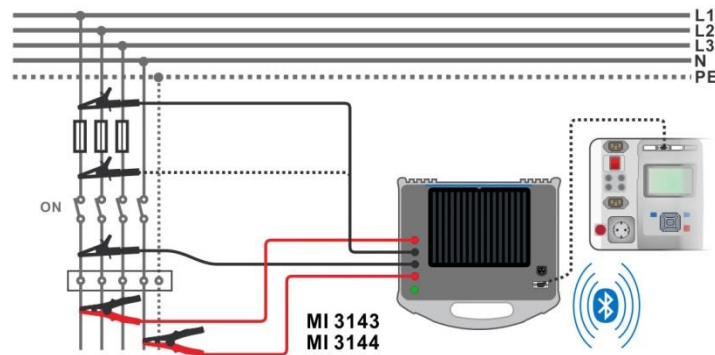

Figure 6.81: High Current resistance measurement
- › Connect test leads to the object under test, see **Figure 6.81**.